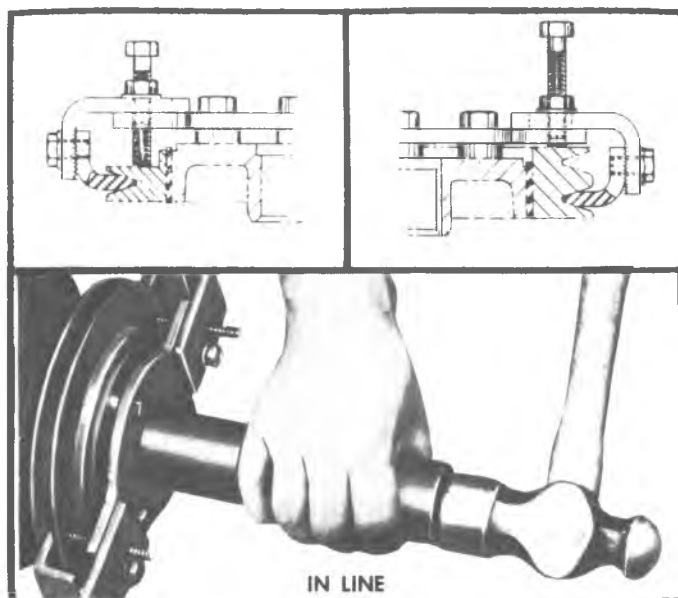

Fig. 11—Installing Torsional Damper (Drive on Type)
- b. Attach damper Installer Tool J-22197 to damper. Tighten fingers of tool to prevent weight from moving (fig. 11).
- c. Position damper on crankshaft and drive into position using J- 5590 until it bottoms against crankshaft gear or sprocket (fig. 11). Remove installer tool.